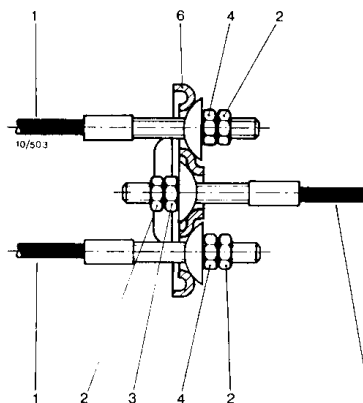

Fig. 13. Brake cable adjustment
2. Disassemble the brake mechanism (Fig. 13).
1. Assemble the brake cables (Fig. 13).
2. With the towing eye pulled out and the hand brake lever in the released position, screw up adjusting nut and brake cable nuts (3 and 4-Fig. 13) until there is no slack in the brake mechanism.